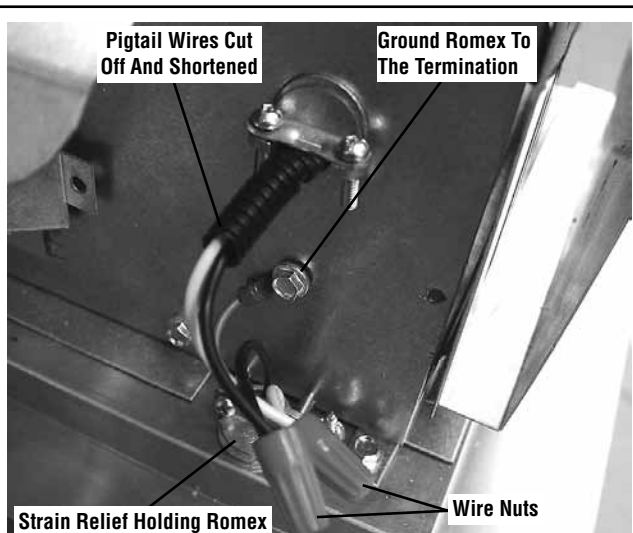

Figure 25 - Junction Box Cover Removed
- Refer to Figure 25 to connect the three wires of the Romex cable to the termination. Ensure the ground ring terminal is grounded beneath a structural screw as shown. Attach the junction box cover to the termination with the screw previously removed.